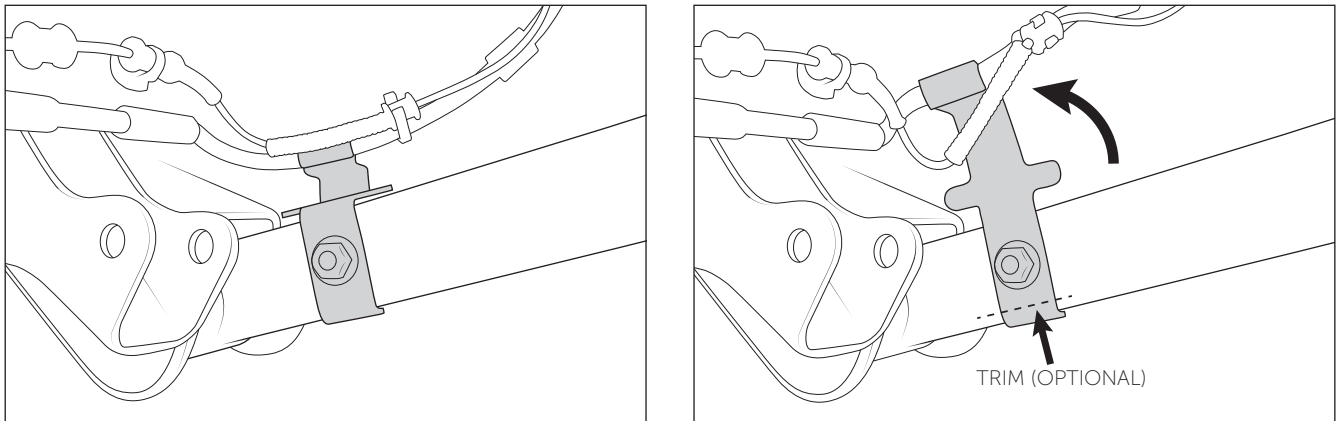

Figure 19: Before (left) After (right)
- Bend brake line brackets on lower control arms flat/up to allow extra travel relative to frame (Fig 19). On vehicles that will be rock crawling, AEV suggests trimming off the bottom tab of these brackets below the mounting hole to eliminate a snag point.